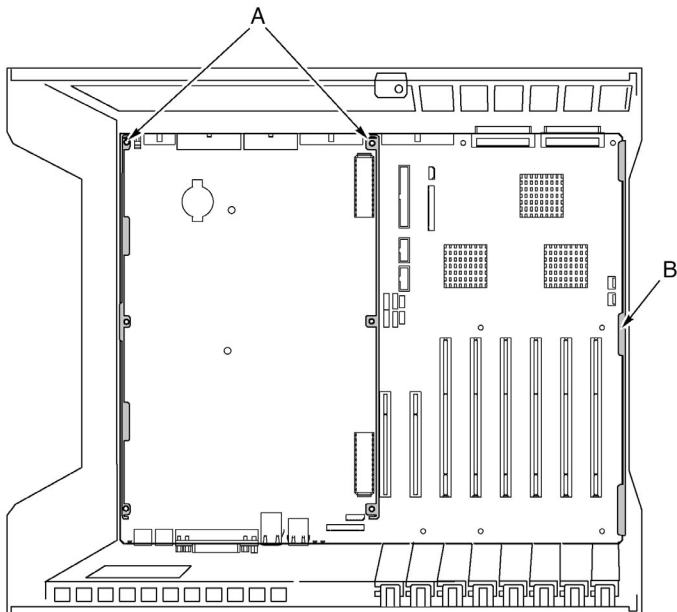

Figure 23 - Mainboard mounting
- 9 Remove the six screws, the plastic overlay, and the two processor board mounting brackets that attach the mainboard to the electronics bay (Figure 23, A).
- 11 At one side of the chassis, the board is inserted into slots in a foam panel (Figure 23, B). Lift up on the opposite end of the board and pull the edge of the board out of the slots in the foam panel.
- 1 With the rear of the electronics bay closest to you and the mainboard oriented so that the I/O connectors line up with the cutout in the back left of the chassis (Figure 23), lower the right end of the mainboard into the electronics bay and slip the board edge into the slots of the foam panel (Figure 23, B).
- b The six mounting holes on the mainboard (Figure 23, B) are aligned with their corresponding threaded standoffs in the floor of the electronics bay.